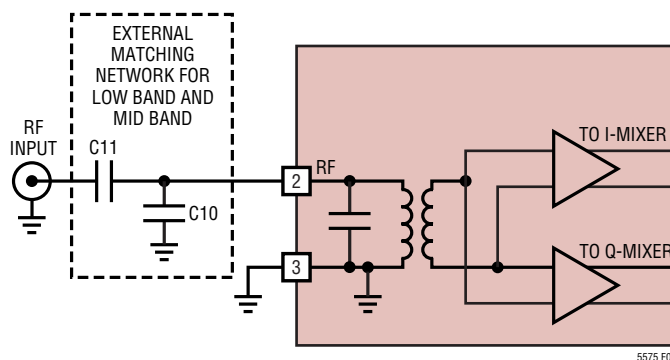

Figure 4. RF Input Interface
**RF (Pin 2):** RF Input Pin. This is a single-ended  $50\Omega$  terminated input. No external matching network is required for the high frequency band. An external series capacitor (and/or shunt capacitor) may be required for impedance transformation to  $50\Omega$  in the low frequency band from 800MHz to 1.5GHz (see Figure 4). If the RF source is not DC blocked, a series blocking capacitor should be used. Otherwise, damage to the IC may result.
Figure 4 shows the demodulator's RF input which consists of an integrated transformer and high linearity transconductance amplifiers. The primary side of the transformer is connected to the RF input pin. The secondary side of the transformer is connected to the differential inputs of the transconductance amplifiers. Under no circumstances should an external DC voltage be applied to the RF input pin. DC current flowing into the primary side of the transformer may cause damage to the integrated transformer. A series blocking capacitor should be used to AC-couple the RF input port to the RF signal source.
The RF input port is internally matched over a wide frequency range from  $1.5\text{GHz}$  to  $2.7\text{GHz}$  with input return loss typically better than  $10\text{dB}$ . No external matching network is needed for this frequency range. When the part is operated at lower frequencies, however, the input return loss can be improved with the matching network shown in Figure 4. Shunt capacitor C10 and series capacitor C11 can be selected for optimum input impedance matching at the